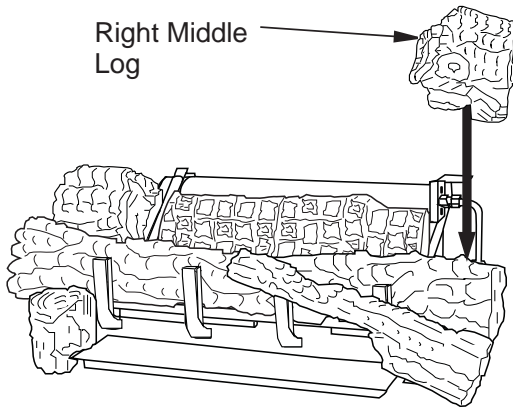

Figure 29 - Installing Right Middle Log
6. The right middle log has a groove on the bottom to sit on the chassis and has to sit on the tab on the back of the right front. The right middle log should have a recess area that fits around the ramp log as shown in **Figure 29**.